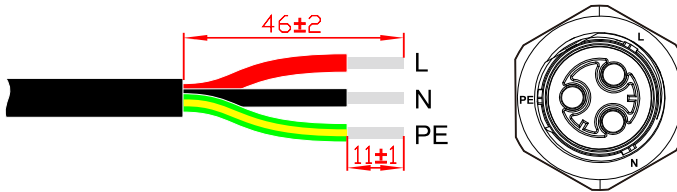

Figure3-43 Wire Stripping (unit: mm)
Step 2 Strip wire for about 11mm, the strip instructions and GRID port markings are as shown in Figure3-43.